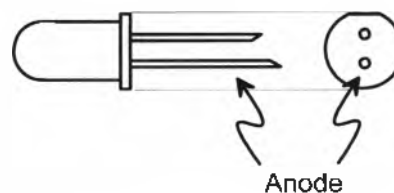

Figure 2
10. Modify the circuit as shown in Figure 2 below.